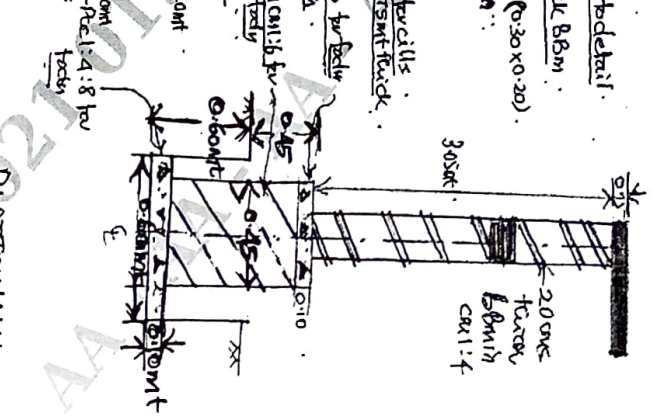

Fig.Q.3
- 3 Accompanying Fig.Q.3 shows the details of 3 bed room unit. By centre line method estimate the below mentioned items of work.
- 4 Refer Fig.Q.3, using centre line method